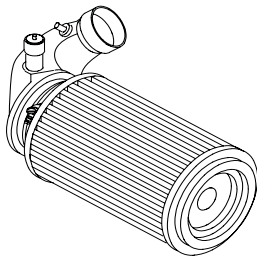

Fig. 1
3. Clamp the AEM® air filter to the intake elbow. (Fig. 1)